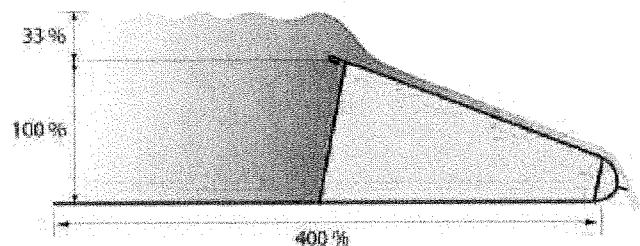
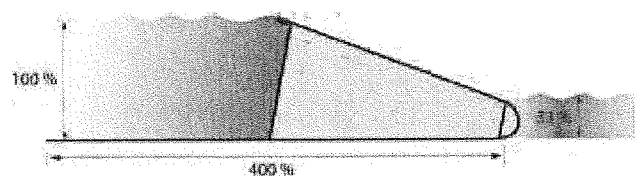

Fig : 1
Fig : 2
The situation shown in Figure 1 is not likely to occur because there is no accumulation of water behind the barrier. In this case, the barrier can hold a surplus of water of up to about 33% on top. This approximate percentage represents the point at which the barrier will slip.
B. Surplus of water at the back of the barrier: The situation shown in Figure 2 is the opposite of that in the previous figure. The risk of slipping is the same as in Figure 1, as the maximum acceptable amount of water behind the barrier is also $\pm 33\%$.